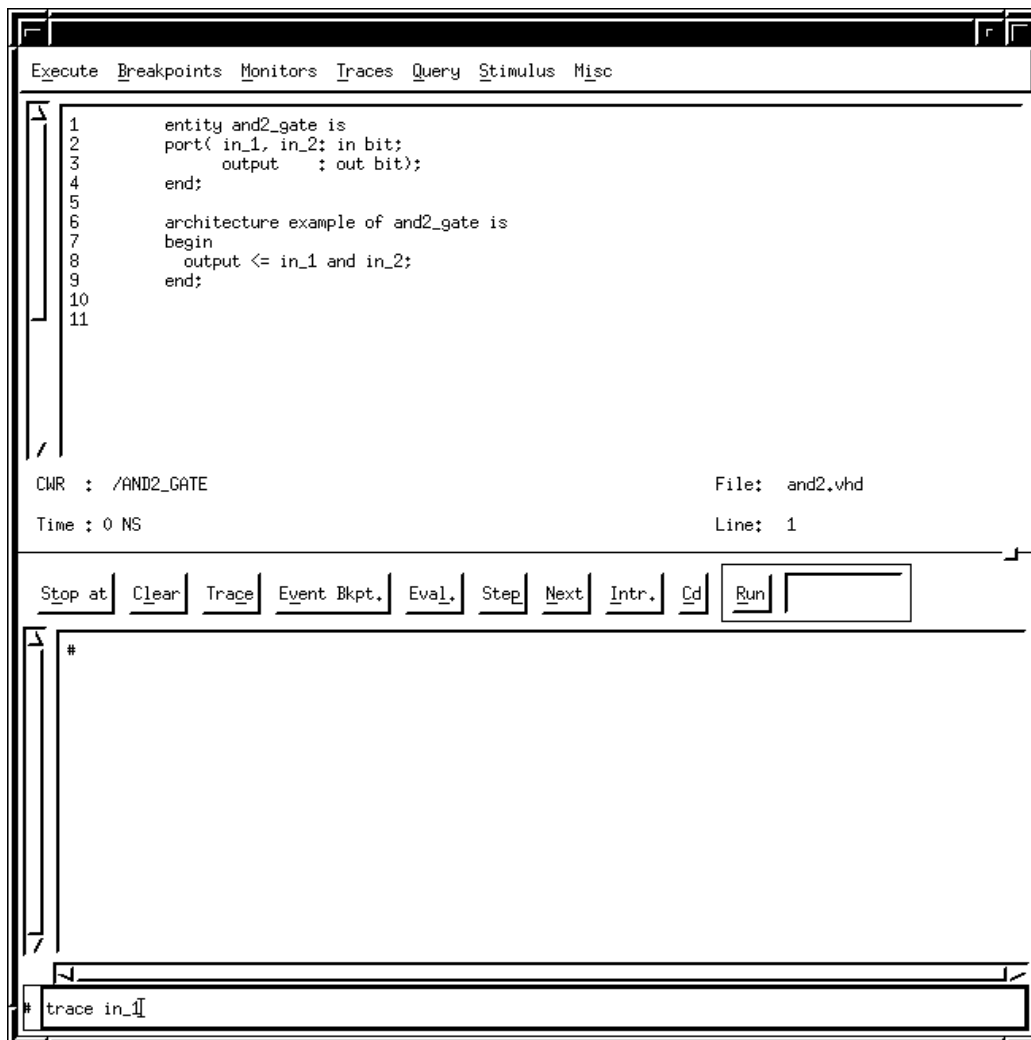

Figure 5: Issuing a trace command from the command window in VhdlDbx.
(5) One can manually assign values to signals using the **trace** and **assign** commands. The trace command will cause the signal which is to be traced to be listed in a waveform window. The assign command is used to set a signal to a certain value. For example, we wish to have the values of the three signals in_1, in_2, and output appear in the waveform window. To do so we would issue the following commands from the command window of the Debugger window (see Figure 5):